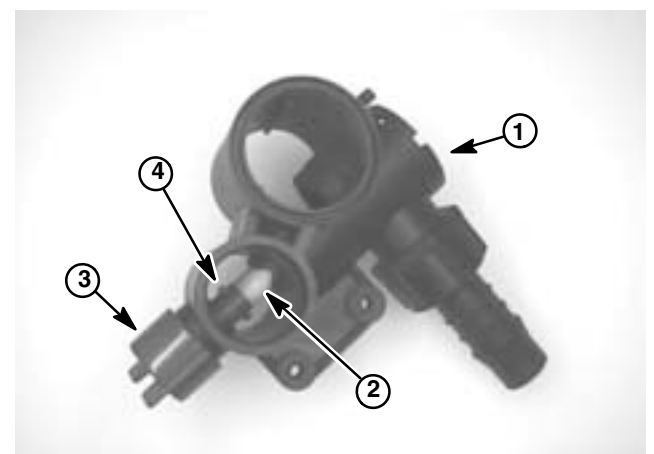

Figure 28
6. If leakage occurs from balancing valve knob at bottom of boom valve manifold (Fig. 28):
2. If boom valve manifold was disassembled (Fig. 28):